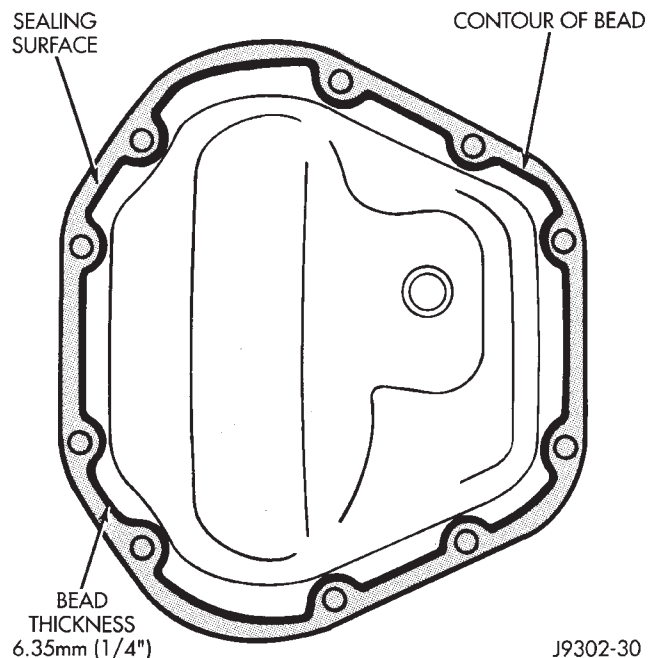

Fig. 5 Typical Housing Cover With Sealant
- (4) Clean the housing cavity with a flushing oil, light engine oil or lint free cloth. **Do not use water, steam, kerosene or gasoline for cleaning.**
- (5) Remove the sealant from the housing and cover surfaces.
- (6) Apply a bead of Mopar Silicone Rubber Sealant to the housing cover (Fig. 5). **Allow the sealant to cure for a few minutes.**